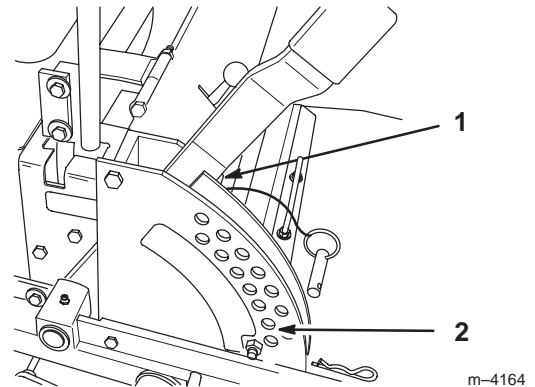

Figure 60
5. Place two 1-1/2 in. (38 mm) thick blocks under rear left and right lower edge of mower. Place one 2-1/4 in. (57 mm) block under front center lower edge of mower. Lower mower to the 2 in. (51 mm) height-of-cut position (Fig. 60).
1. Raise deck lift lever to the transport position, (Fig. 60).